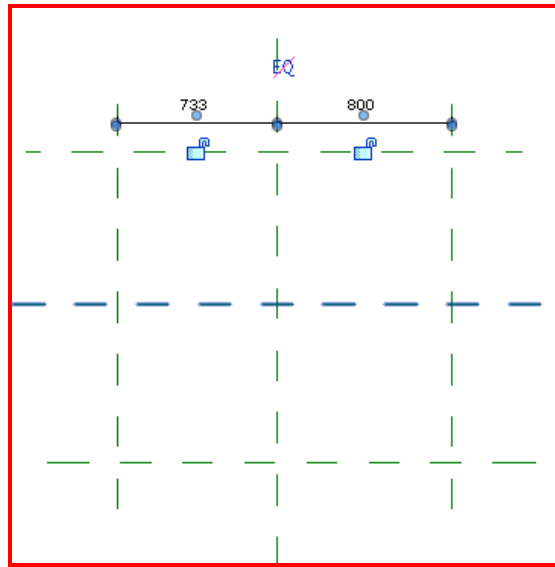

Figure 2.19
10. In the view window as shown in Figure 2.19: